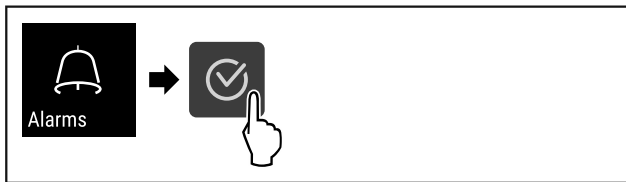

Fig. 116
- ▶ Complete steps (see Fig. 116) .